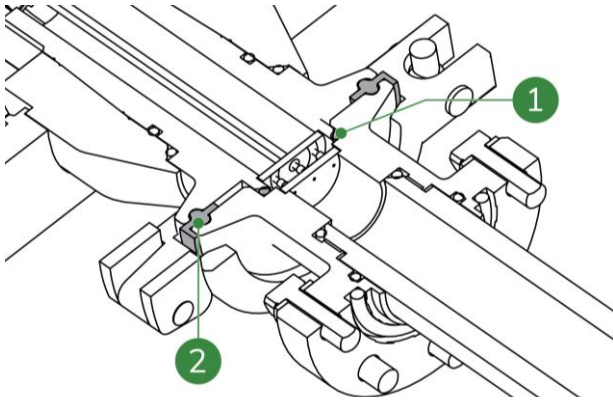

Figure 8-18: O-rings
11. Clean and inspect the grooves for the 2 O-rings (Figure 8-18, pos. 1 and 2).
13. Make sure that the 2 O-rings are present at the transmitter and sensor (Figure 8-18, pos. 1 and 2).